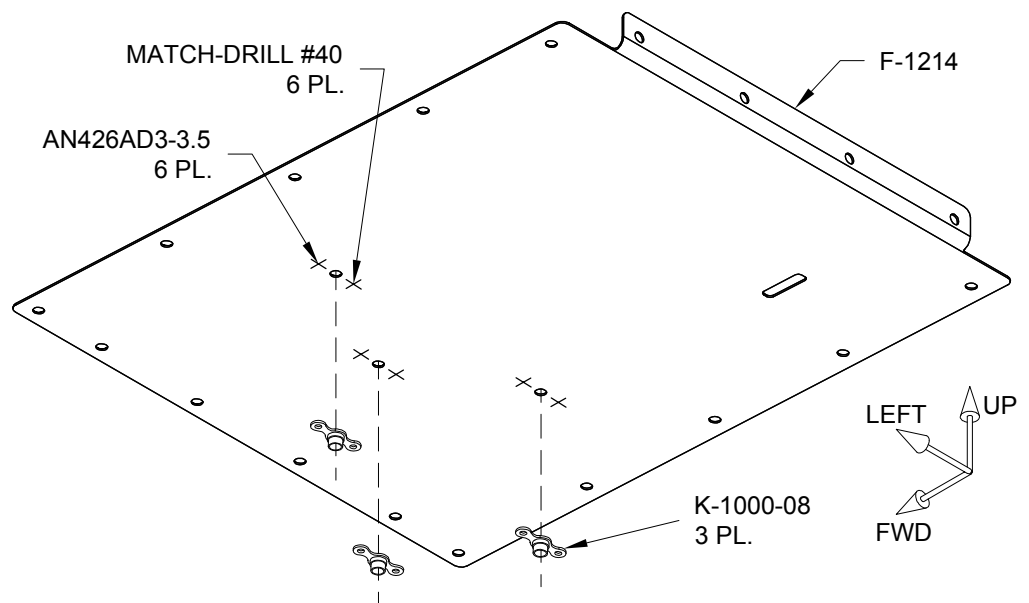

FIGURE 2: INSTALLING STEP FLOOR COVER NUTPLATES
Step 6: Match-Drill #40 the nutplate attach holes in the F-1214 Step Floor Cover using the nutplates called out in Figure 2 as guides. Deburr all the match-drilled holes.
Step 8: Rivet the nutplates to the underside of the F-1214 Step Floor Cover using the rivets called out in Figure 2.